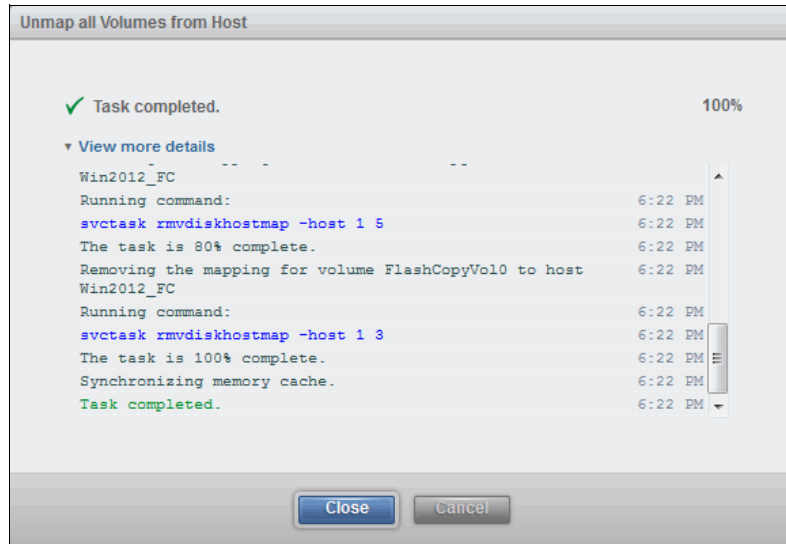

Figure 8-14 Unmapping all volumes from host
- After you click Unmap, the changes are applied to the system, as shown in Figure 8-14. Click **Close** after you review the output.